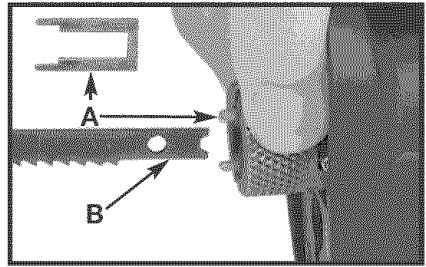

Fig. 5
2. Insert the jig saw blade adapter (A) **Fig. 5** into the the clamp until it hits bottom. Insert the jig saw blade (B) into the blade adapter